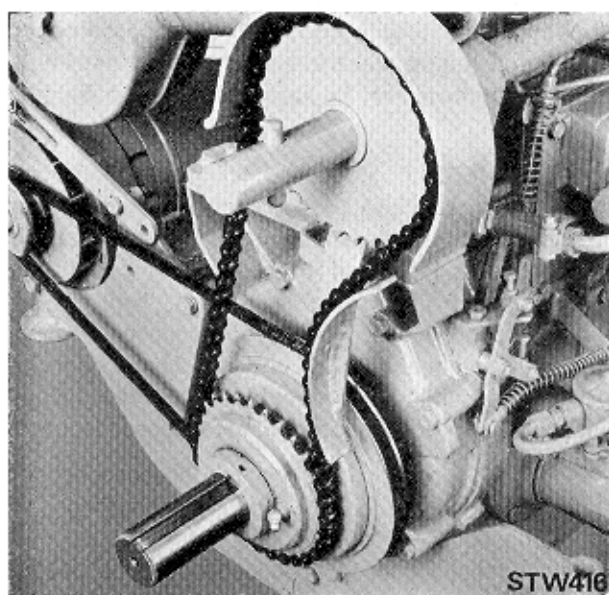

Fig. 80. Raised Hand Start—STW
**RAISED HAND STARTING (Fig. 80)**